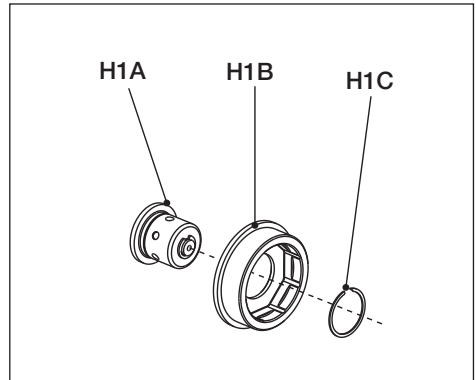

Fig. 27
5.3.10 Drive Shaft Release Button Disassembly and Reassembly (Fig. 27)